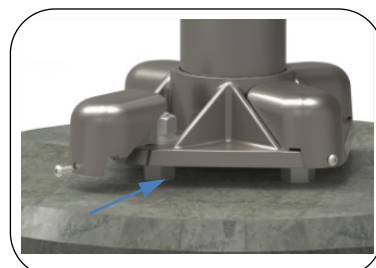
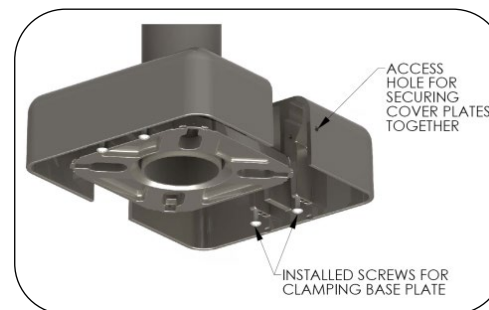

Fig. 7 – Install nut covers
Fig. 8 – Install cover plates
11. Install the nut covers as shown in Fig. 7 or the cover plate as shown in Fig. 8.